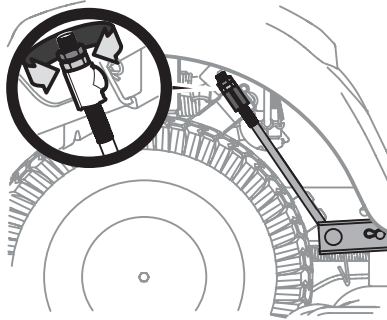

Figure 22
3. Under the rear fenders, inside the wheels, there is a lift adjustment rod for each side of the deck. See Figure 22.